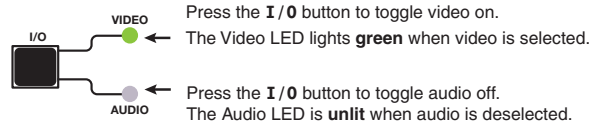

Figure 11. Selecting Video Only
2. **To select only video for the tie**, press and release the **I/O** button to toggle video on. The Video LED lights green when video is enabled. Deselect audio by pressing the **I/O** button until the Audio LED is unlit (see figure 11).